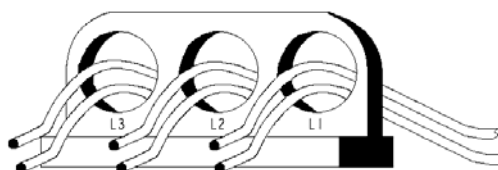

Figure 16 - Configuration B
- Configuration B: 2 sets of leads, all through the toroid. See Figure 16 on page 165.